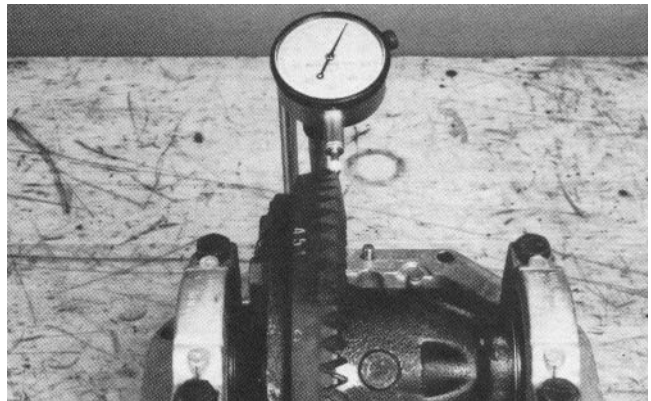

Figure 53
22. Using a dial indicator, check the ring gear backlash in three equally spaced points. Ring gear backlash should be .003 to .007 in. (.076 to .178 mm) and must not vary more than .002 in. (.05 mm) between points checked (Fig. 53).